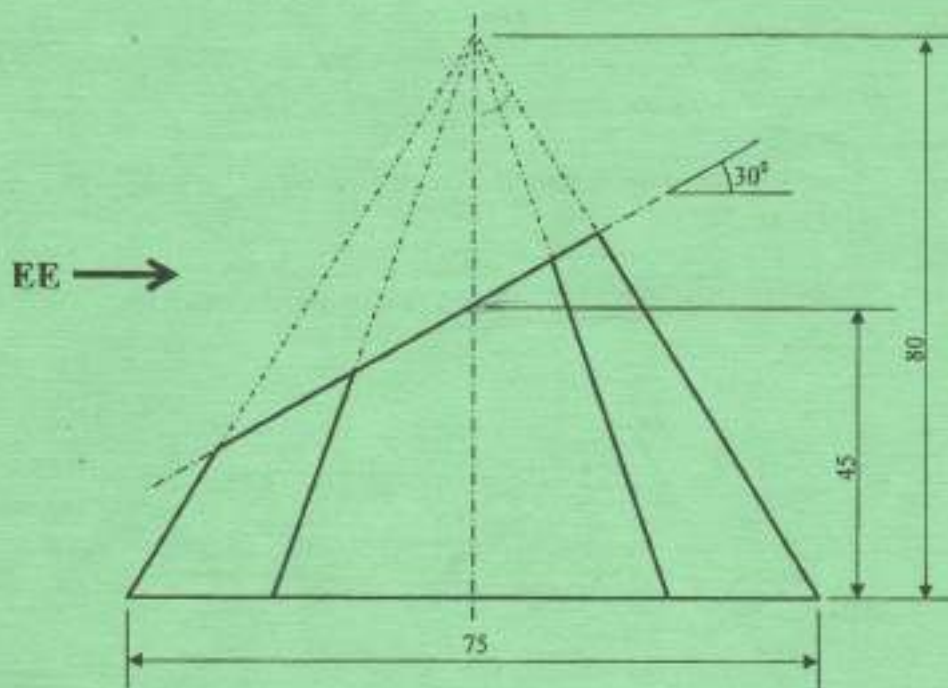

Fig. 1
5. Figure 1 shows a truncated hexagonal pyramid. Using first angle projection draw the following: